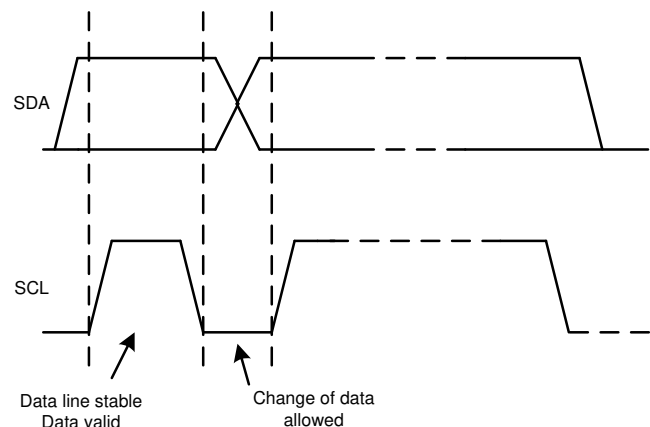

图 52. Bit Transfer on the I²C Bus
2. The master then generates the SCL pulses, and transmits the 7-bit address and the read/write direction bit (R/W) on the SDA line. During all transmissions, the master makes sure that data are valid. A valid data condition requires the SDA line to be stable during the entire high period of the clock pulse, as shown in 图 52. All devices recognize the address sent by the master and compare the address to the respective internal fixed address. Only the slave device with a matching address generates an acknowledge by pulling the SDA line low during the entire high period of the 9th SCL cycle, as shown in 图 50. When the master detects this acknowledge, the communication link with a slave has been established.